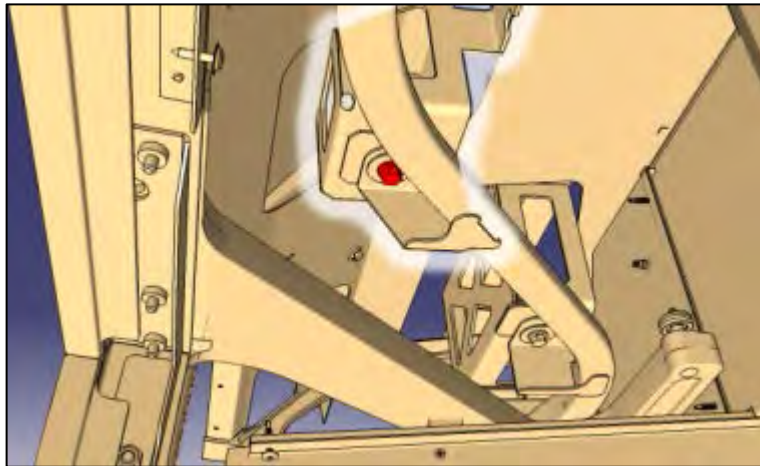

Figure 59: Looking aft
- 84. Locate the mid rail support (Figure 59)